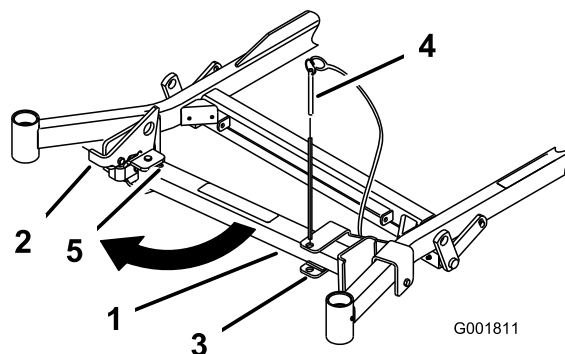
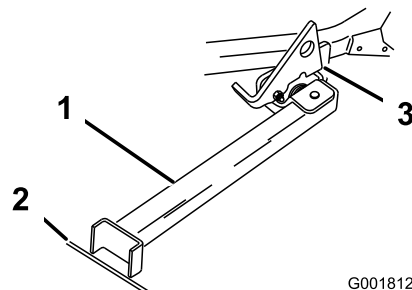

Figure 31
Figure 32
2. Remove the bracket pin (Figure 31).
3. Raise the latch. Swing the stand foot out front and slide stand toward machine, into the bottom of slot (Figure 31 and Figure 32).
4. Set the foot of stand on the ground and rest the latch on the pivot tab (Figure 32).
Note: For best results, place the foot of stand into seams in sidewalks or into the turf (Figure 32).
6. Drive onto the stand. Stop when the latch drops over the tab into the locked position (Figure 32). Once onto the stand, engage the parking brake and turn off the engine.
5. Return the stand to its rest position (Figure 31).